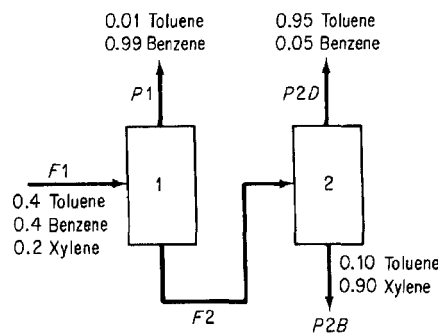

Figure SAT11P1
1. A two-stage separations unit is shown in Figure SAT11P1. Given that the input stream F1 is 1000 lb/hr, calculate the value of F2 and the composition of F2.
2. A simplified process for the production of SO₃ to be used in the manufacture of sulfuric acid is illustrated in Figure SAT11P2. Sulfur is burned with 100% excess air in the burner, but for the reaction $S + O_2 \rightarrow SO_2$, only 90% conversion of the S to SO₂ is achieved in the burner. In the converter, the conversion of SO₂ to SO₃ is 95% complete. Calculate the kg of air required per 100 kg of sulfur burned, and the concentrations of the components in the exit gas from the burner and from the converter in mole fractions.